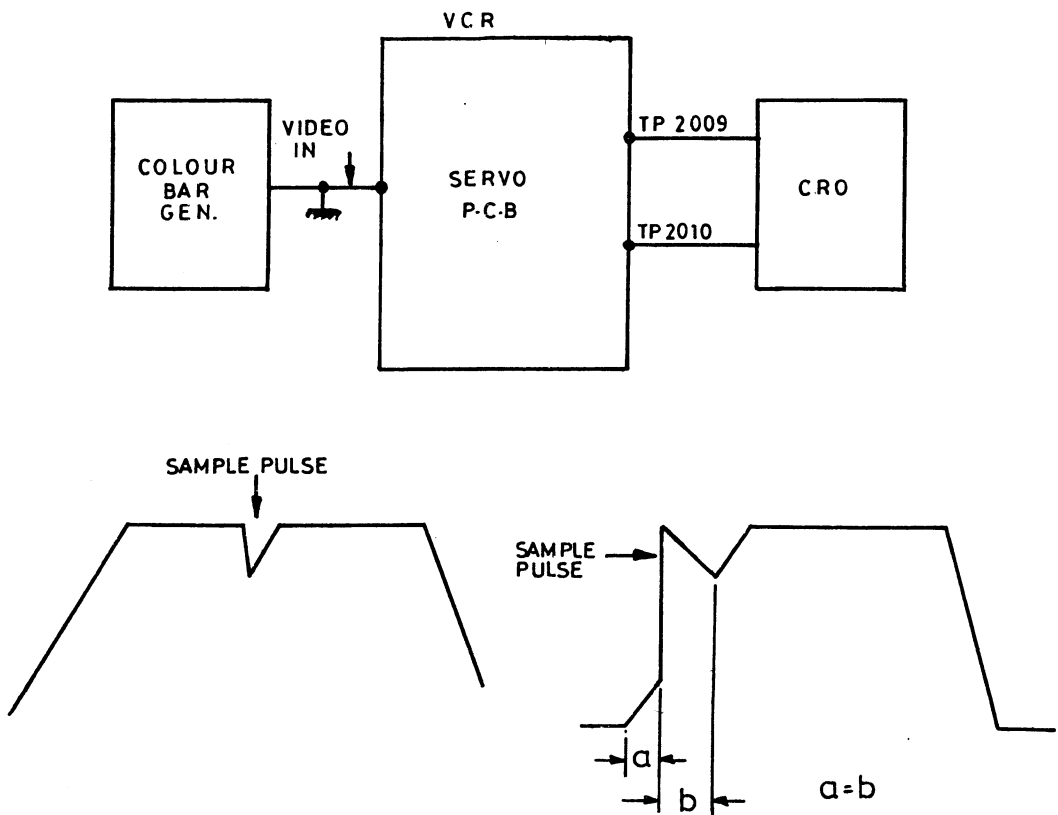

Fig. 11.4 Capstan speed adjustment and waveforms
1. Connect the colour bar generator to the video input of the servo system PC board as shown in fig. 11.4
4. Now adjust the capstan speed control R-2044 in the servo section so that the sample pulse is locked on the trapezoidal wave form, or the sample pulse flows as slowly as possible on the trapezoidal wave form as shown in fig. 11.4
4. Adjust R-2035 in the servo section so that both the wave forms, i.e., the head switching pulse and trapezoidal wave form are phase-locked or the sample pulse flows as slowly as possible on the trapezoidal wave form as shown in fig. 11.4